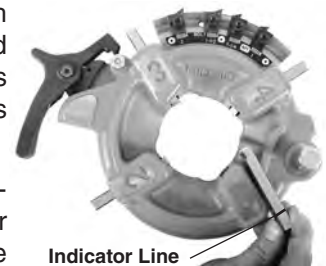

Figure 14 – Inserting Dies
- Insert appropriate dies into the die head, numbered edge up until the indicator line is flush with the edge of the diehead (see Figure 14). Numbers on the dies must correspond with those on the die head slots. Always change dies as sets – do not mix dies from different sets.